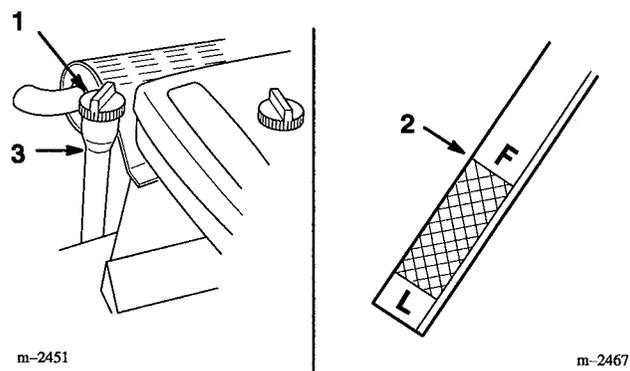

Figure 18
3. Clean around the oil dipstick (Fig. 18) so dirt cannot fall into the filler hole and damage the engine.
4. Unscrew the oil dipstick, pull out and wipe the metal end clean (Fig. 18).
5. Slide the oil dipstick fully into the filler tube and thread on securely (Fig. 18). Unscrew and pull dipstick out and look at the metal end. If oil level is low, slowly pour only enough oil into the filler tube to raise the level to the “FULL” mark.
6. Slowly pour approximately 80% of the specified amount of oil into the filler tube (Fig. 18). Now check the oil level; refer to Checking Oil Level, page 21. Slowly add additional oil to bring to "FULL" mark on dipstick.